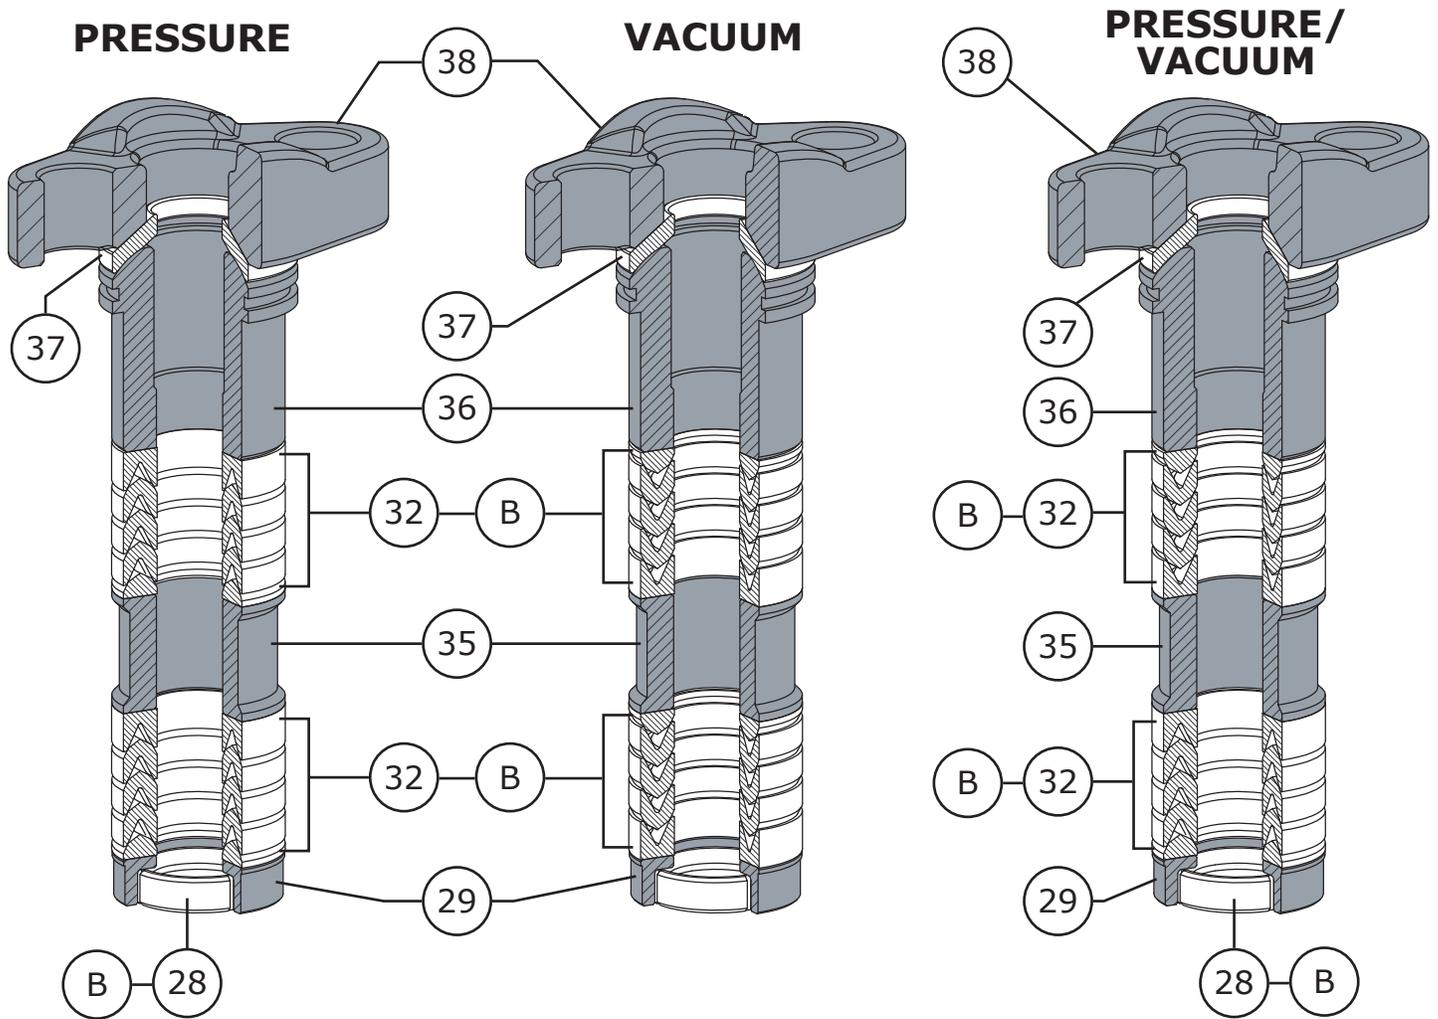

Figure 33 Double PTFE Packing Diagrams
- 2 Apply Molykote® 111 (Key B) to the first set of packing rings (Key 32). Install the packing rings one ring at a time (as shown in Figure 28) in the proper order and orientation as shown in Figure 33. **WARNING:** For oxygen service do not apply Molykote® 111, Molykote® 111 in oxygen service applications can cause an explosion.
- 4 Apply Molykote® 111 (Key B) to the second set of packing rings (Key 32). Install the packing rings one ring at a time (as shown in Figure 28) in the proper order and orientation as shown in Figure 33. **WARNING:** For oxygen service do not apply Molykote® 111, Molykote® 111 in oxygen service applications can cause an explosion.